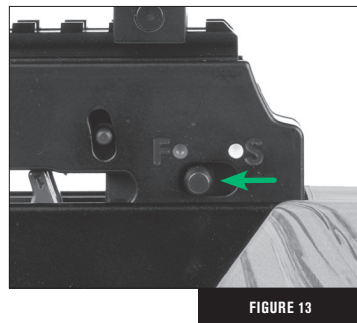

FIGURE 13
The safety is disengaged and the crossbow is ready to be cocked when the safety switch has moved from the (S)AFE position, under the white dot, to the (F)IRE position, under the red dot, as illustrated in Figure 13.
With the crossbow aimed in a safe direction and an arrow loaded, slide the safety switch (Part 20) forwards until you hear and feel the safety switch click off. The safety is disengaged and the crossbow is ready to be cocked or fired when the safety switch has moved from under the (S)AFE position and the white dot, to under the (F)IRE position and the red dot, as illustrated in Fig. 13 on page 4.